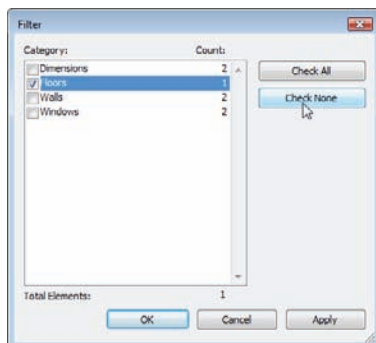

FIGURE 6.35 Deselect all the elements and then select Floors.
4. In the Filter dialog box, click the Check None button, as shown in Figure 6.35.
5. Select the Floors option (see Figure 6.35) and click OK.